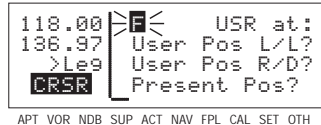

Figure 5-22
2. Use the right inner knob to select the first character of the identifier (figure 5-22). Remember that when the cursor is on, the right inner knob changes the character and the right outer knob moves the cursor around.